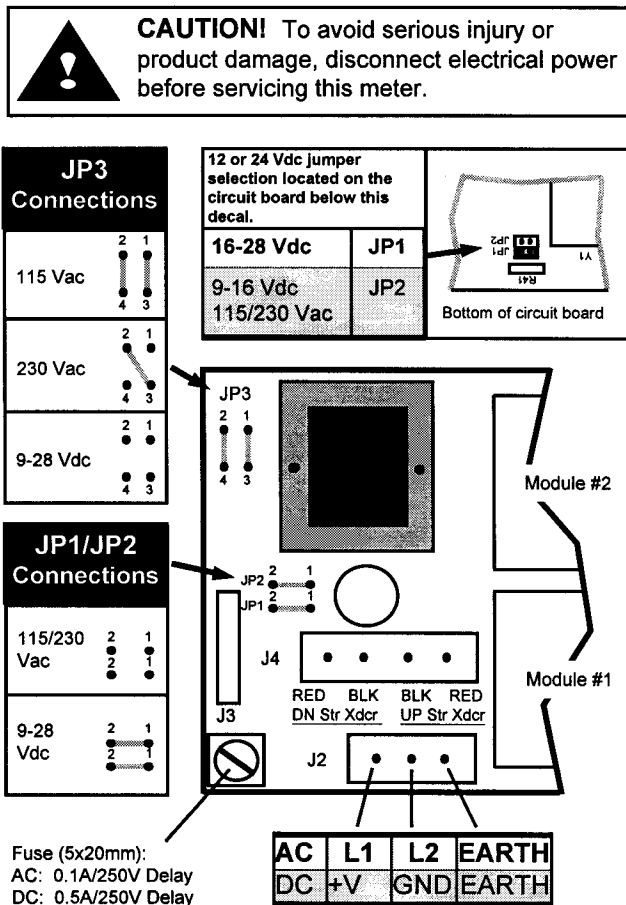

Figure 1.3 - TFX Wiring Diagram
2. The terminals within TFX are a pluggable type - they can be removed wired and then plugged back in. Connect the appropriate wires to J4 at the corresponding screw terminals in the transmitter. Observe UP/DN Str. Xdcr orientation. See **Figure 1.3** or the Wiring Diagram located on the inner door of the transmitter.
Connect line power to the screw terminals marked L1, L2 and Earth in the transmitter. See **Figure 1.3**. Utilize the conduit hole on the left side of the enclosure for this purpose. Use wiring practices that conform to local codes (National Electric Code Hand book in the USA). Use only the standard three wire connection. The ground terminal grounds the instrument, which is mandatory for safe operation.
proper polarity. And verify that the jumpers are properly placed. See the Wiring Diagram located on the inside door of the TFX enclosure or See Figure 1.3.